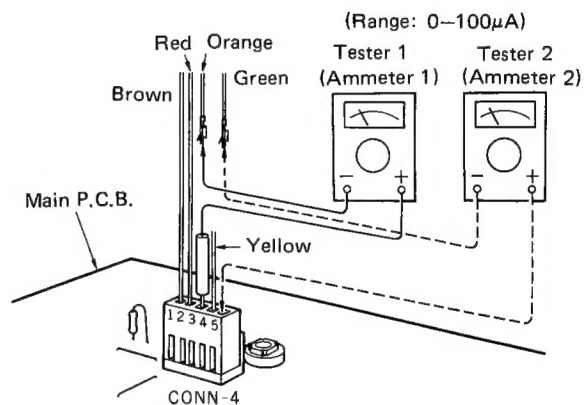

Fig. 13
- 4) Fig. 13 gives a detailed view of CONN-4. Push pins 3 and 5 (at Point A shown in Fig. 13) with a minus  $\ominus$  screwdriver and remove the lead wire.